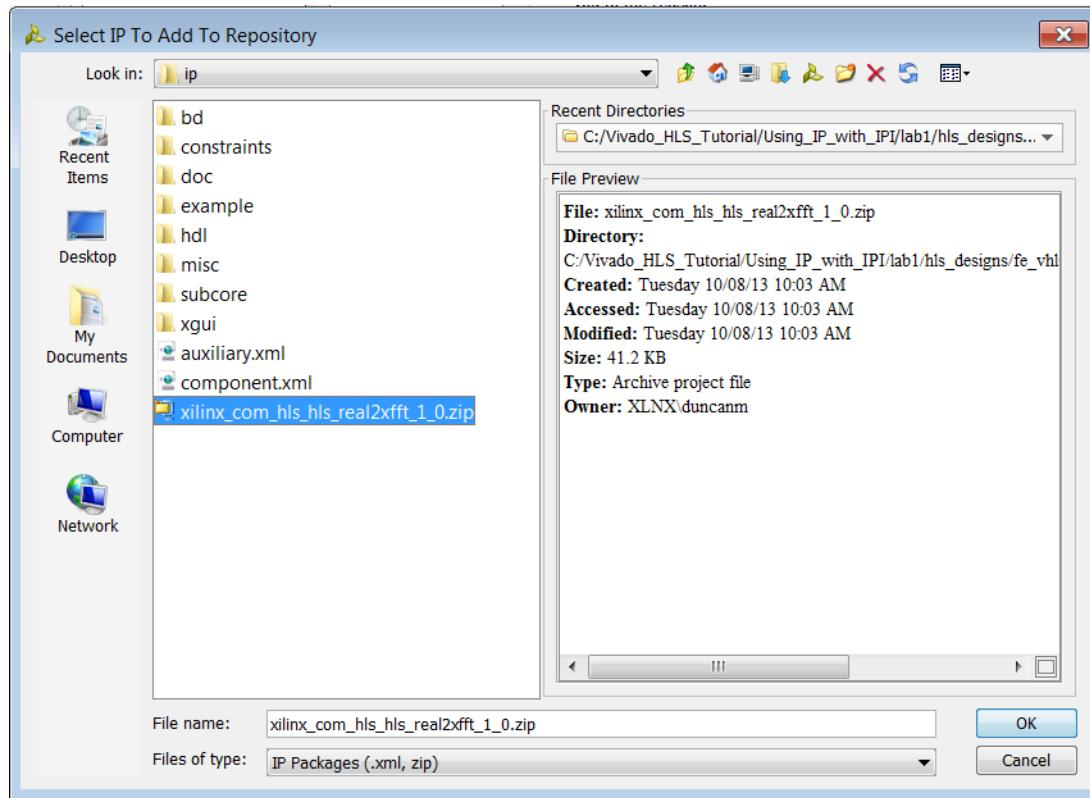

Figure 9-10: Add the HLS IP to the Repository
- c. Select the `xilinx_com_hls_hls_real2xfft_1_0.zip` file (Figure 9-10).